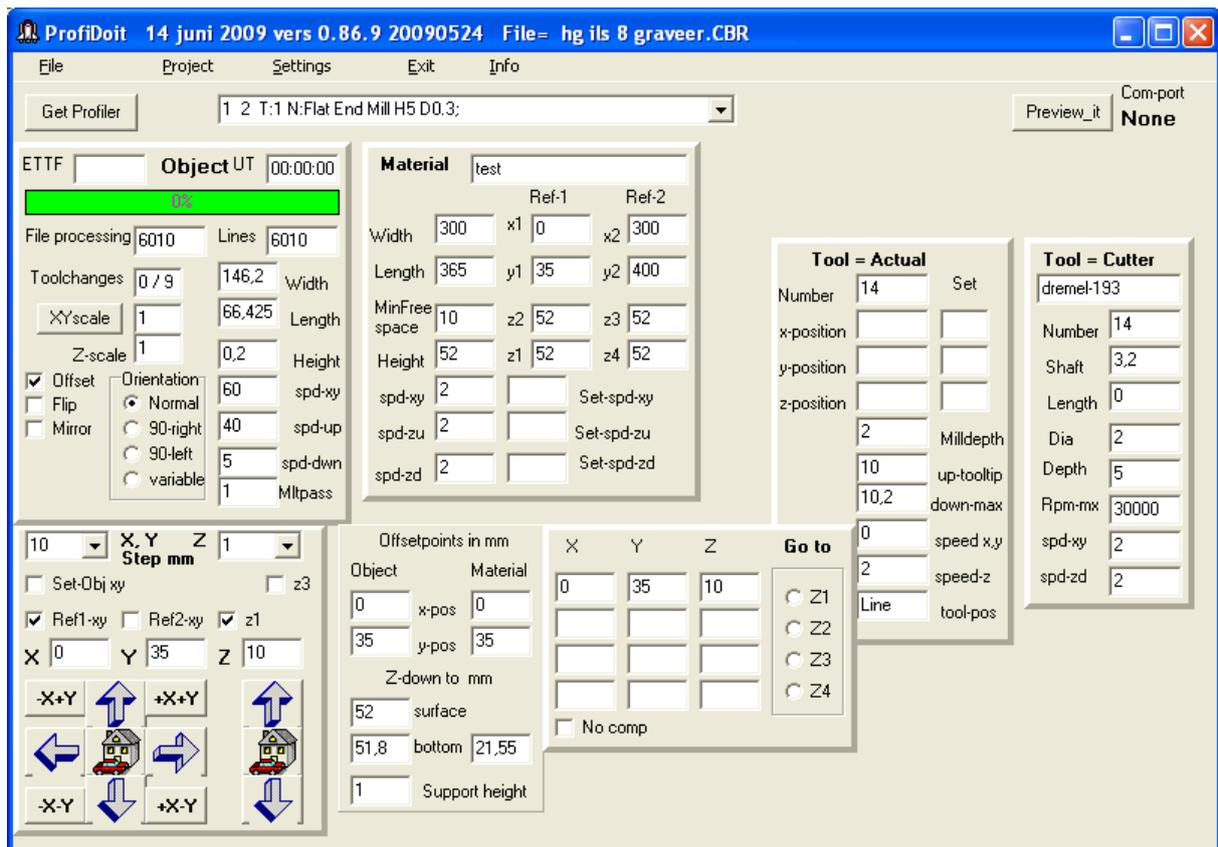

Fig. 3.1.5 Object file loaded.(f5-090614)
- 7. Fig. 3.1.5 Object file loaded.
The input file data block (Fig. 3.1.5).